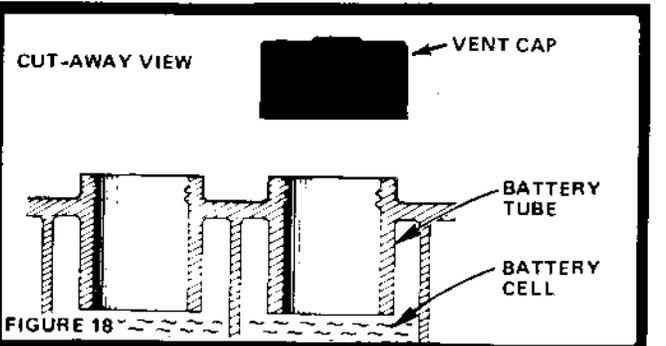

FIGURE 18
- Electrolyte solution level in each Battery Cell should be even with bottoms of tubes in cells (Fig. 18). Add distilled water if necessary. NOTE: DO NOT OVERFILL.